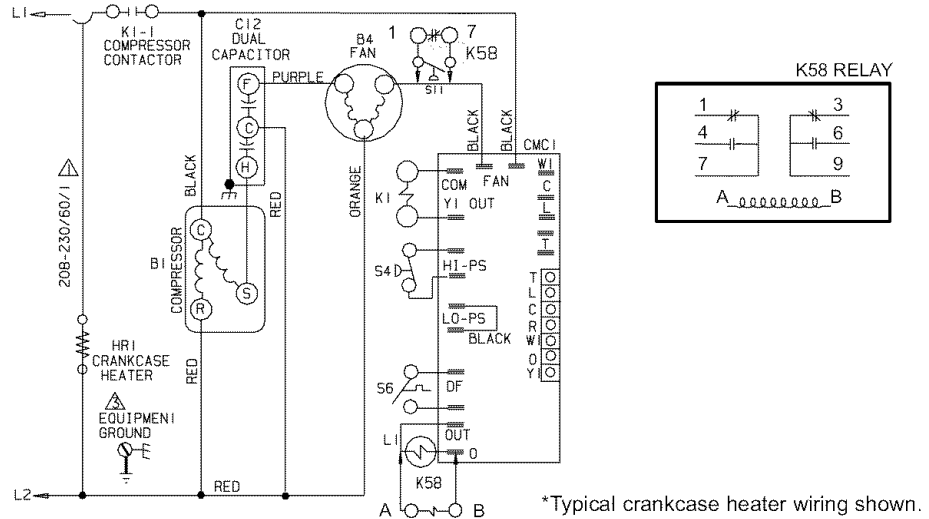

Figure 1
System must include crankcase heater and a freezestat to allow low ambient operation. Add external belly-band crankcase heater and freezestat before continuing. Refer to tables 1 and 2. See figure 1 for freezestat wiring.
- 8 - Wire in K58 relay. See figure 1.